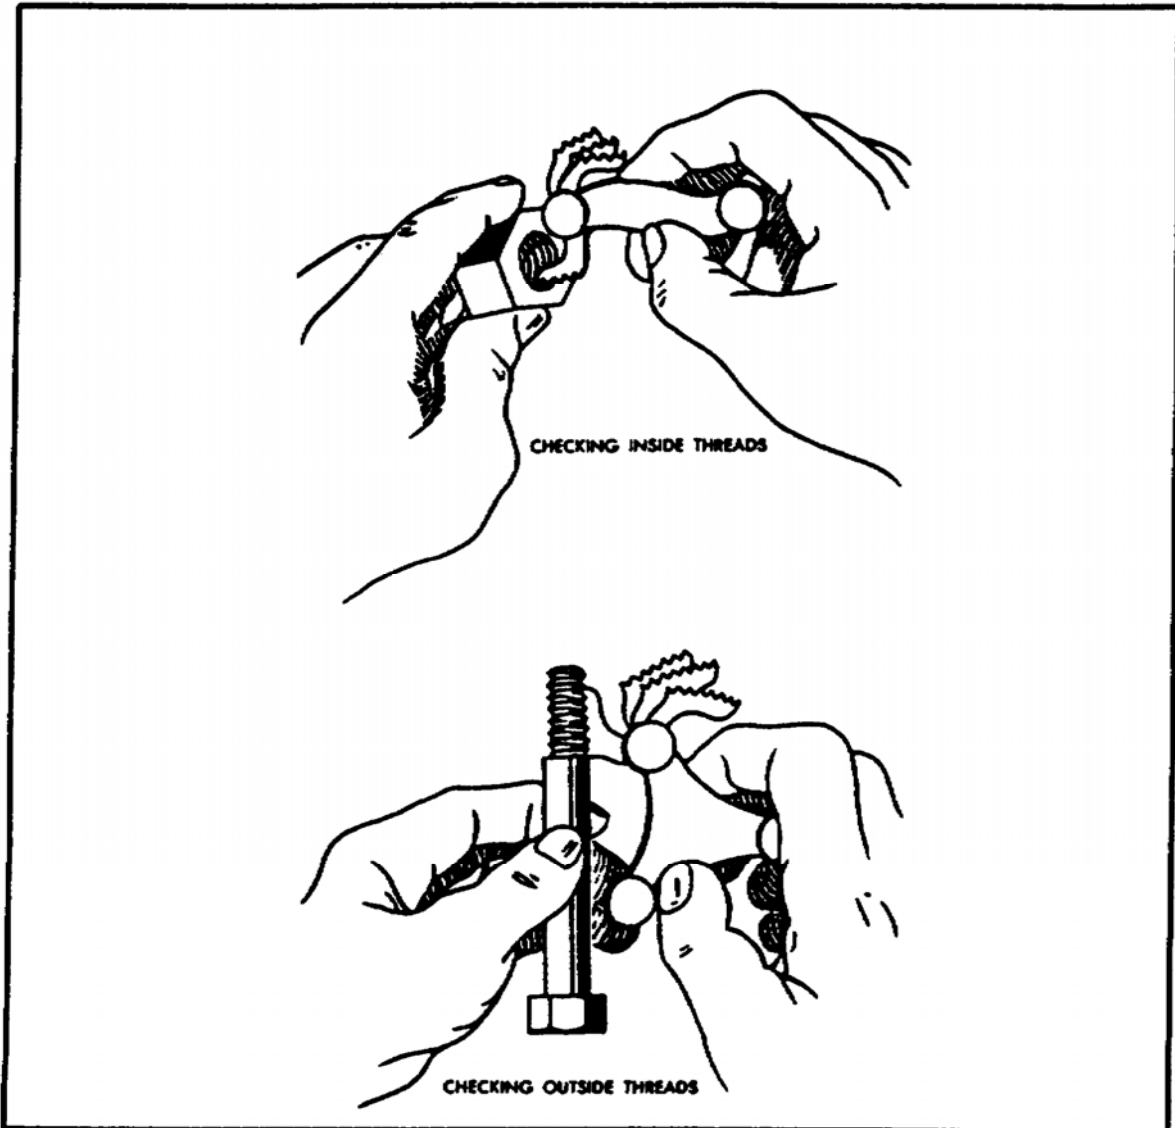

FIGURE 208. USING SCREW PITCH GAGES.
(2) *Screw Pitch Gages*. If the pitch of a thread is not known, it can be determined by comparing it with the standards on the various screw pitch gages. Place a blade of a gage over the threads, and check to see whether it meshes; if not, successively check each blade of the gage against the thread until it meshes. The pitch can be read off the correct blade. The blades are made pointed so that they can be inserted in small nuts to check inside as well as outside threads. Refer to figure 208 for use of the screw pitch gages.